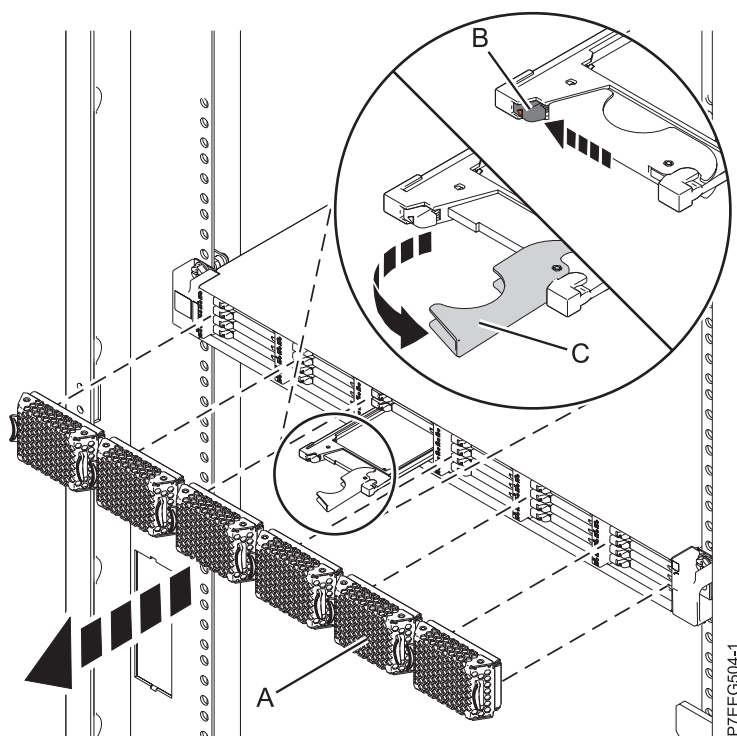

Figure 18. Removing the solid-state drive from the 58/88 PCIe storage enclosure
1. Pull off the bezel (A) that covers the slot containing the solid-state drive.
2. Slide the release latch (B) over gently to unlock the drive handle, see Figure 18 on page 30.
4. When the solid-state drive identify LED flashes, grasp the handle (C) and pull the drive partially out of the slot.